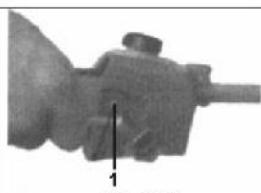

Fig.PP5
2. Loosen the sprocket cover nut with a plug wrench (Fig. PP5)